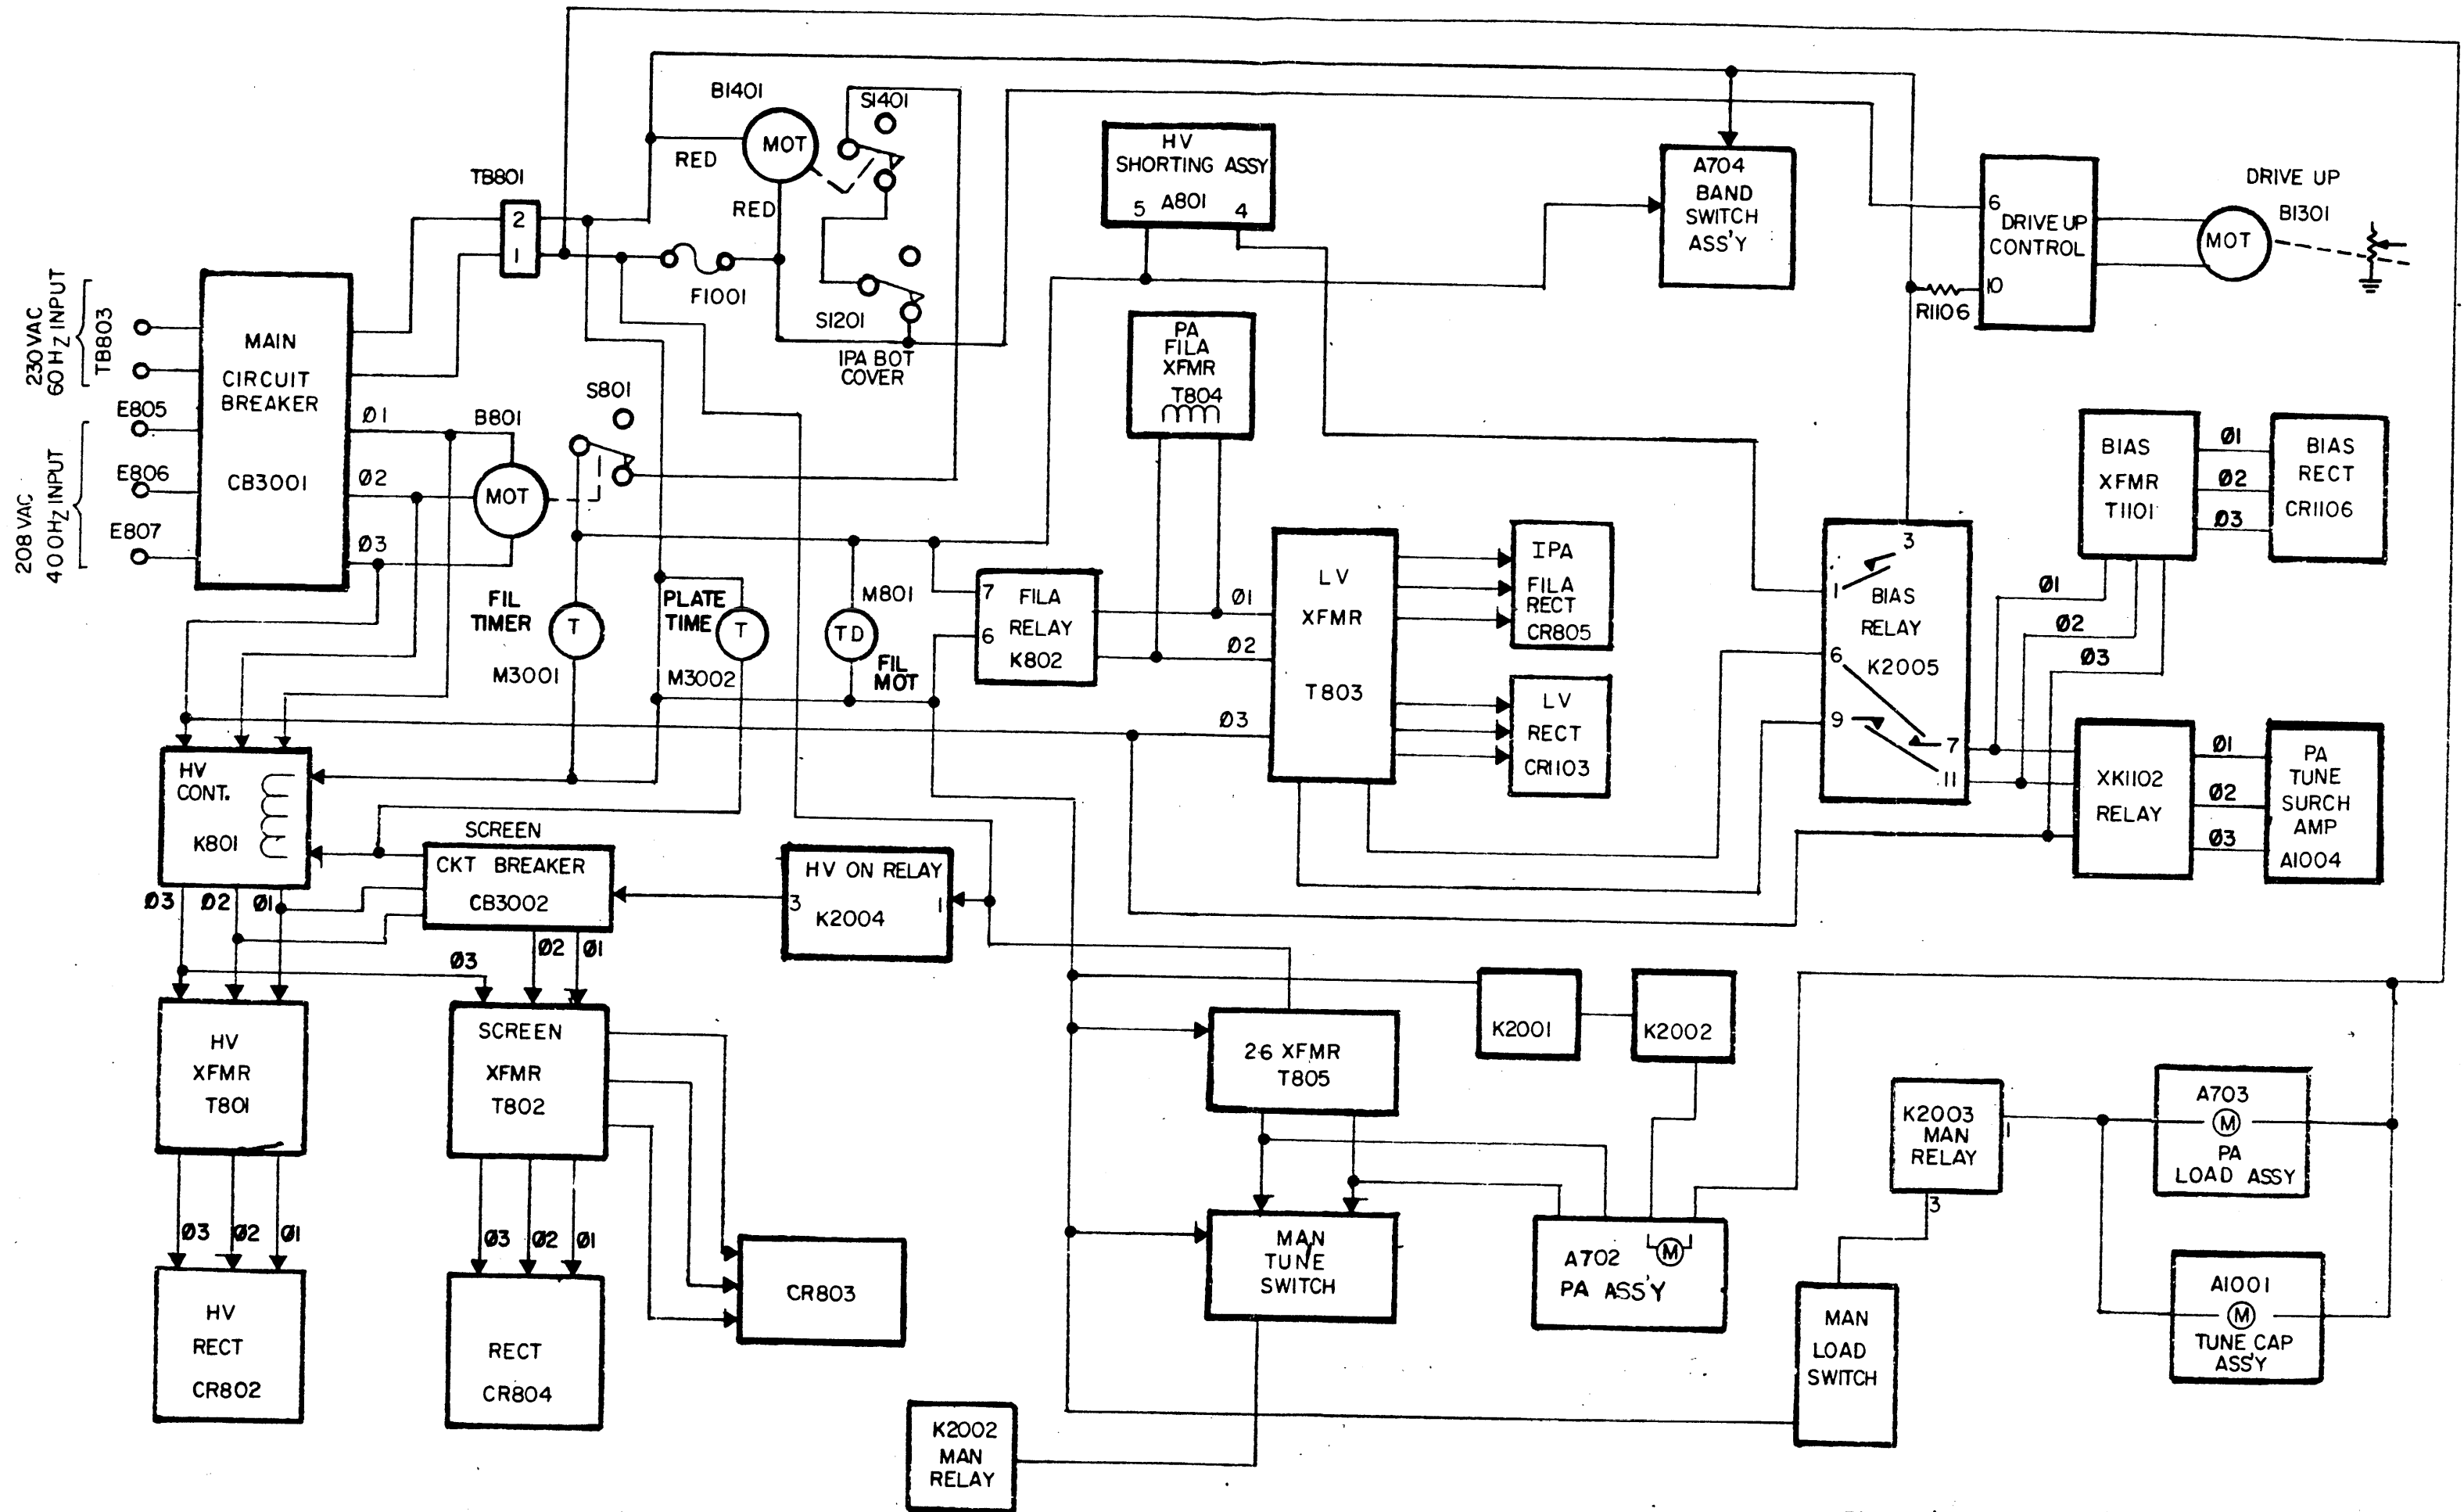

Figure 4-2. Simplified Diagram AC Power Distribution
f. IPA SEARCH. (See figures 4-2, 7-1, 7-2, 7-3 and 7-4) Placing the MAN/AUTO switch S5002 in the AUTO position removes 24 volts from pin 3 of J2001, deenergizing manual relay A2001K6 on the tuning control assembly and the manual relays K2002 and K2003 in the exciter drawer. Ac power as applied to the IPA Tune Capacitor Motor, is explained on page 4-1 of the chapter.